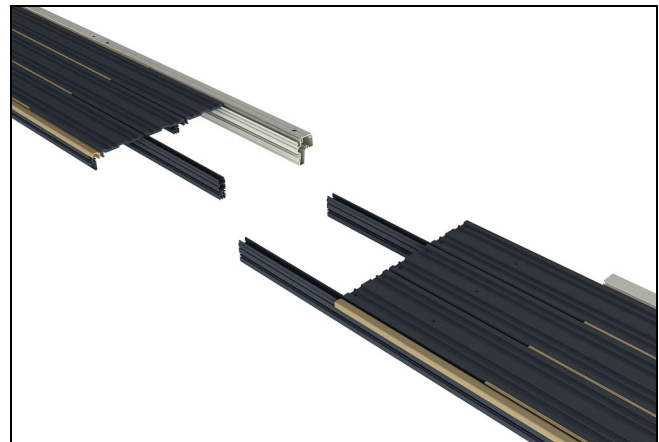

Figure 8
5. Align all components of head jamb sections and slide together. See figure 8.